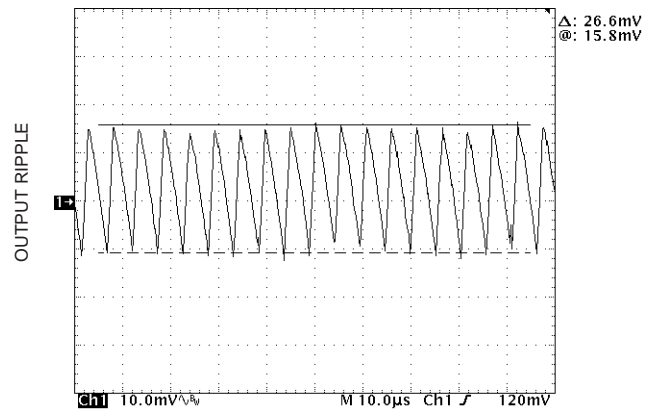
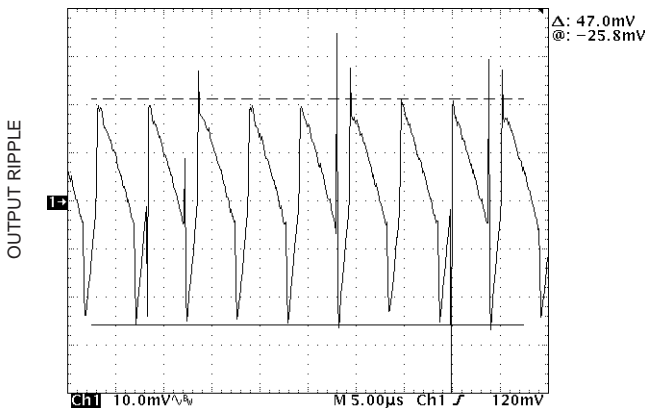

Figure 3a. Output Ripple, Modified Probe
Figure 2a. Output Ripple, Unmodified Probe
9. Use Figure 3a as a reference for an output voltage ripple waveform.
Figure 2a shows what the output ripple looks like with an unmodified scope probe.
Figure 3a shows the output ripple when using a modified scope probe.
Figure 3c shows the scope probe disassembled before the handmade copper ground lead is wrapped around the ground shield. Notice that the probe has been partially disassembled to expose the oscilloscope’s ground shield. A modified ground lead was created by carefully wrapping a piece of *malleable* copper wire around the probe’s exposed ground shield. A short ground lead is important because it behaves like an antenna and picks up RFI (radio frequency interference) typical of a switching power supply. The proof is in the pictures. Figure 3a was measured correctly and had only 26mV of output ripple versus Figure 2a with over 47mV of output ripple. Note the above procedure does not guarantee a correct reading if the probe is out of calibration or the probe is not modified correctly.